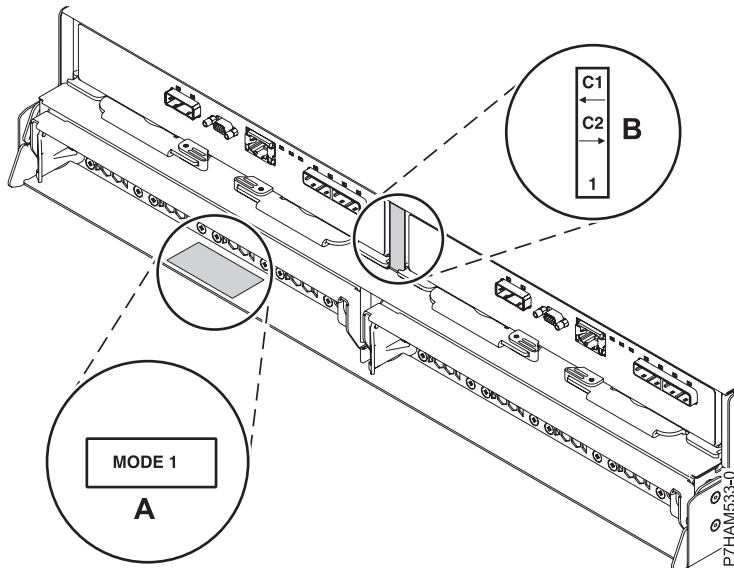

Figure 11. Mode sticker locations at the rear of the 5887 disk drive enclosure
2. Confirm the factory-set mode of the enclosure by using information that is printed on stickers at the rear of the enclosure. Stickers are attached to the lower-left shelf of the chassis (A) and the center support between the enclosure services manager modules (B). The stickers indicate whether the enclosure is set to mode 1, mode 2, or mode 4. For details, see Figure 11.